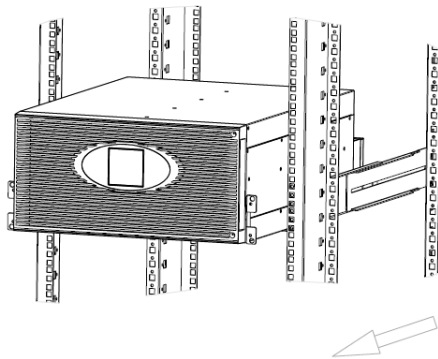

Figure 39: Removing the XANTO S 10000, step 3/3
3. Unscrew the 19" mounting bracket of the UPS system on the front side of the rack and pull the UPS system out of the rack (see Figure 39).